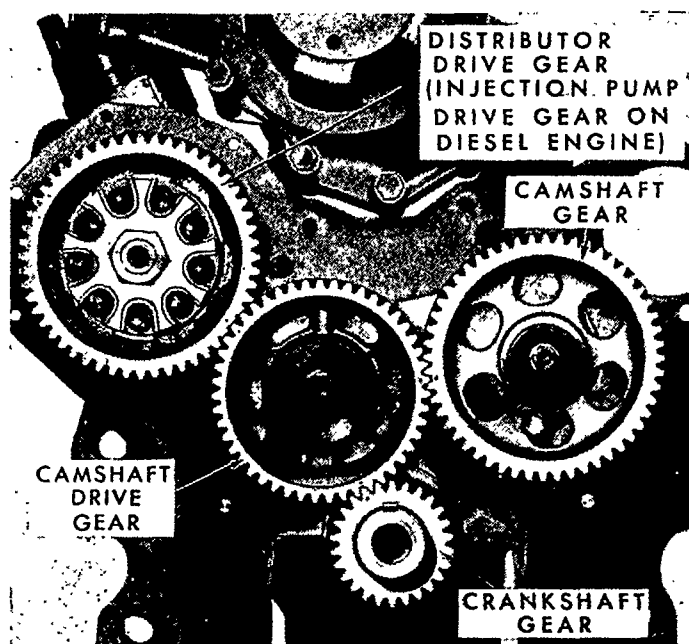

Figure 27
1. The timing gears are shown in Figure 27. The gears are correctly assembled when the timing marks on the gear teeth line up, as shown in the illustration, with the No. 1 piston on T.D.C.